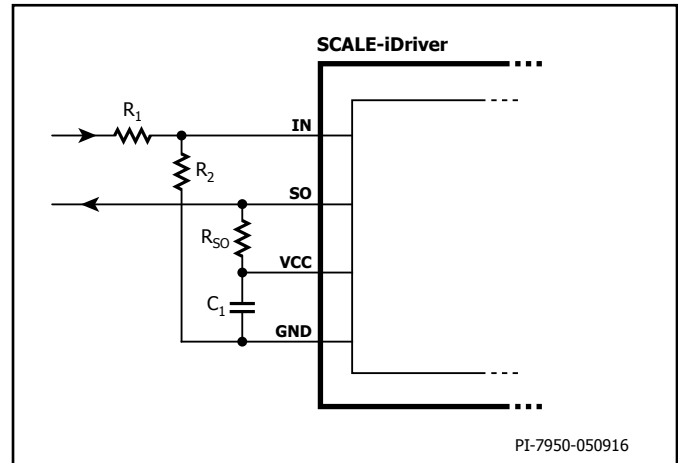
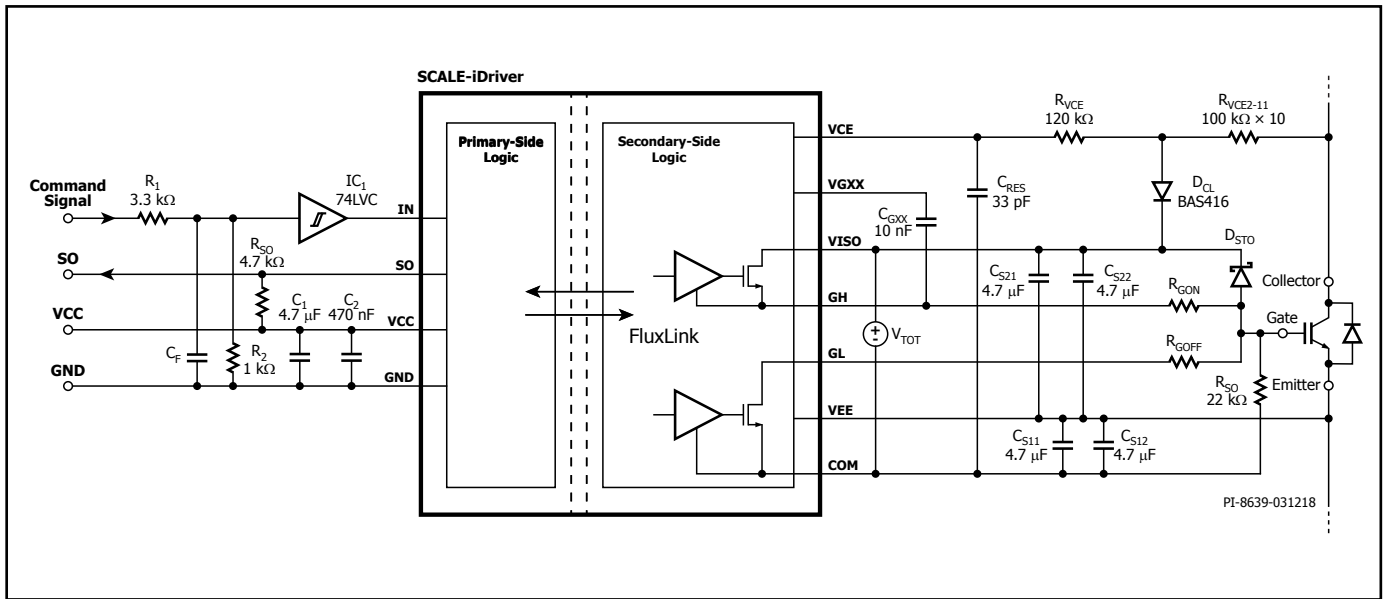

Figure 5. Increased Threshold Voltages V_{IN+LT} and V_{IN+HT} For $R_1 = 3.3 \text{ k}\Omega$ and $R_2 = 1 \text{ k}\Omega$ the IN Logic Level is 15 V.
Figure 13. SCALE-iDriver Application Example Using a Resistor Network for Desaturation Detection.
The input (IN) and output (SO) logic is designed to work directly with micro-controllers using 5 V CMOS logic. If the physical distance between the controller and the SCALE-iDriver is large or if a different logic level is required the resistive divider in Figure 5, or Schmitt-trigger ICs (Figures 13 and 14) can be used. Both solutions adjust the logic level as necessary and will also improve the driver's noise immunity.
and power-down. Any supply voltage related to VCC, VISO, VEE and VGXX pins should be stabilized using ceramic capacitors C_1 , C_{S1X} , C_{S2X} , C_{GXX} respectively as shown in Figures 13 and 14. After supply voltages reach their nominal values, the driver will begin to function after a time delay t_{START} .
Figures 13 and 14 show the schematic and typical components used for a SCALE-iDriver design. In both cases the primary-side supply voltage (V_{VCC}) is connected between VCC and GND pins and supported through a supply bypass ceramic capacitor C_1 (4.7 μ F typically). If the command signal voltage level is higher than the rated IN pin voltage (in this case 15 V) a resistive voltage divider should be used. Additional capacitor C_F and Schmitt trigger IC_1 can be used to provide input signal filtering. The SO output has 5 V logic and the R_{SO} is selected so that it does not exceed absolute maximum rated I_{SO} current.
Figure 13 shows how switch desaturation can be measured using resistors $R_{VCE2} - R_{VCE11}$. In this example all the resistors have a value of 100 kΩ using 1206 package. The total resistance is 1 MΩ. The resistors should be chosen to limit current to between 0.6 mA to 0.8 mA at maximum DC-link voltage. The sum of $R_{VCE2} - R_{VCE11}$ should be approximately 1 MΩ for 1200 V semiconductors and 500 kΩ for 600 V semiconductors. In each case the resistor string must provide sufficient creepage and clearance distances between collector of the semiconductor and SCALE-iDriver. The low leakage diode D_{CL} keeps the short-circuit duration constant over a wide DC-link voltage range.
Table 2. PCB Layout and Component Guidelines Referring to Figure 13.